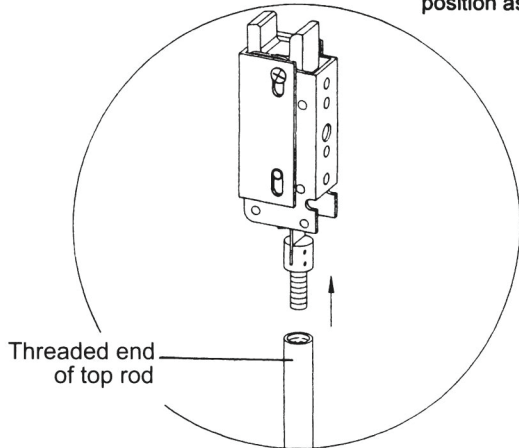

Figure 9
- b. Screw the full length of threaded end of top rod into top latch assembly. (See Figure 9.)
- f. If the hole of top rod connector does not align with the mounting hole of the bit glide plate, then adjust the length of top rod as shown at Figure 9, or make an additional cut to adjust the length.